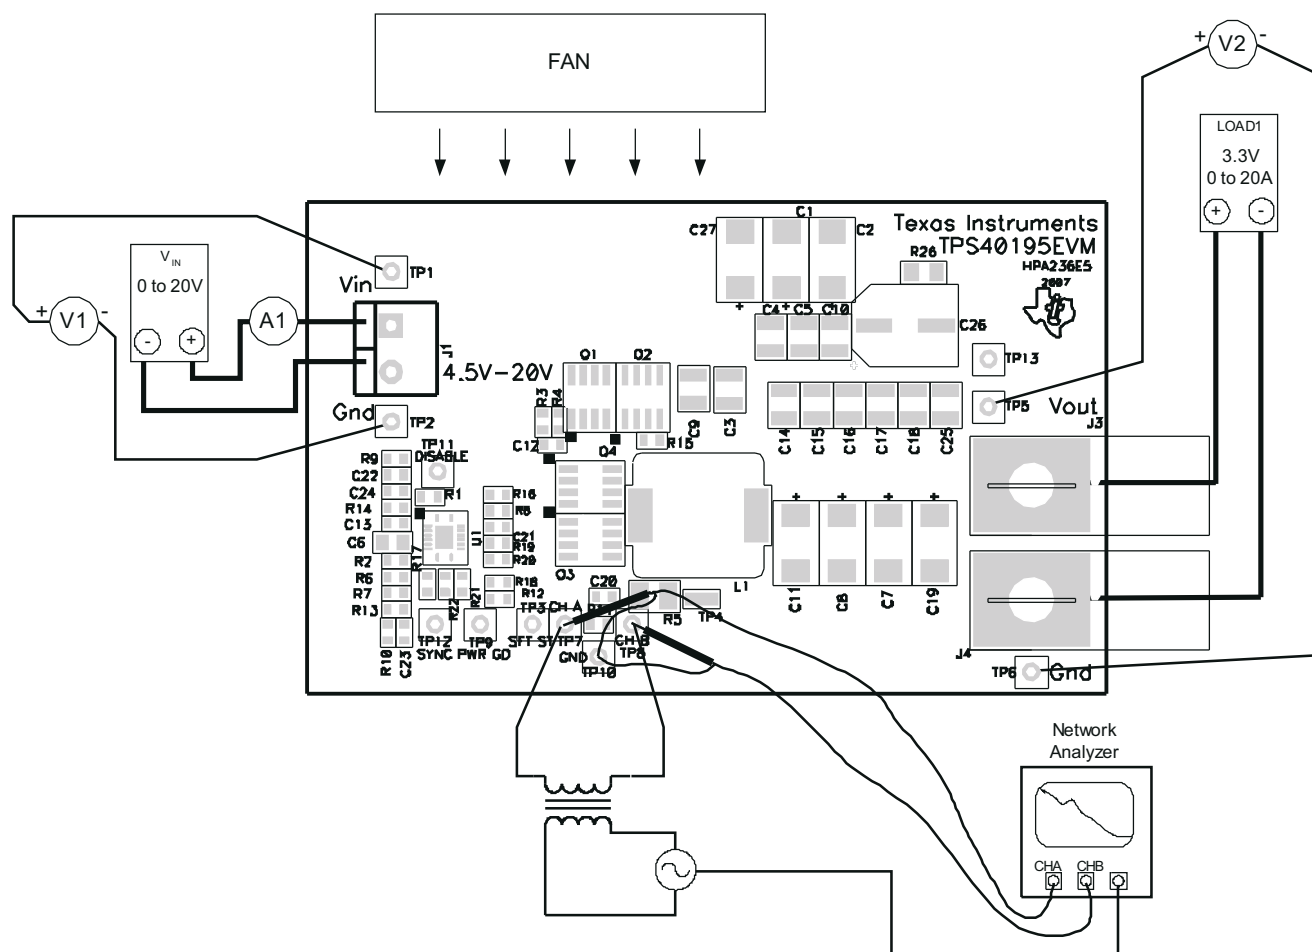

Figure 6-2. Control Loop Measurement Setup
2. Connect a input signal amplitude measurement probe (Channel A) to TP7 as shown in Figure 6-2.
3. Connect a output signal amplitude measurement probe (Channel B) to TP8 as shown in Figure 6-2.
4. Connect the ground lead of Channel A and Channel B to TP10 as shown in Figure 6-2.